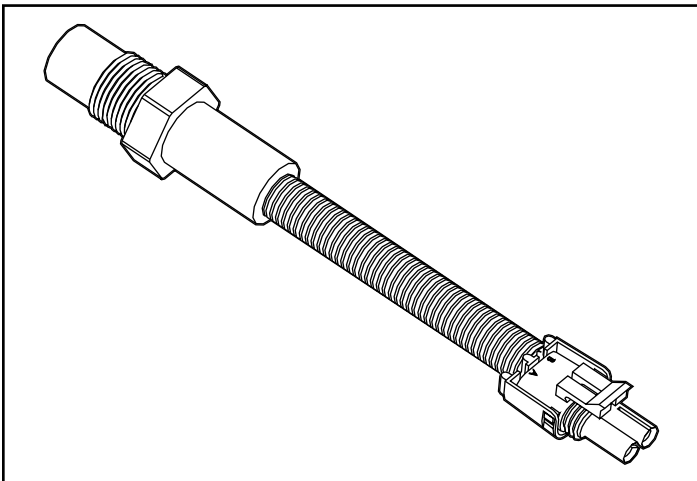

Figure 10
**Step 1:** Disconnect the thermostat harness (see Figure 10).